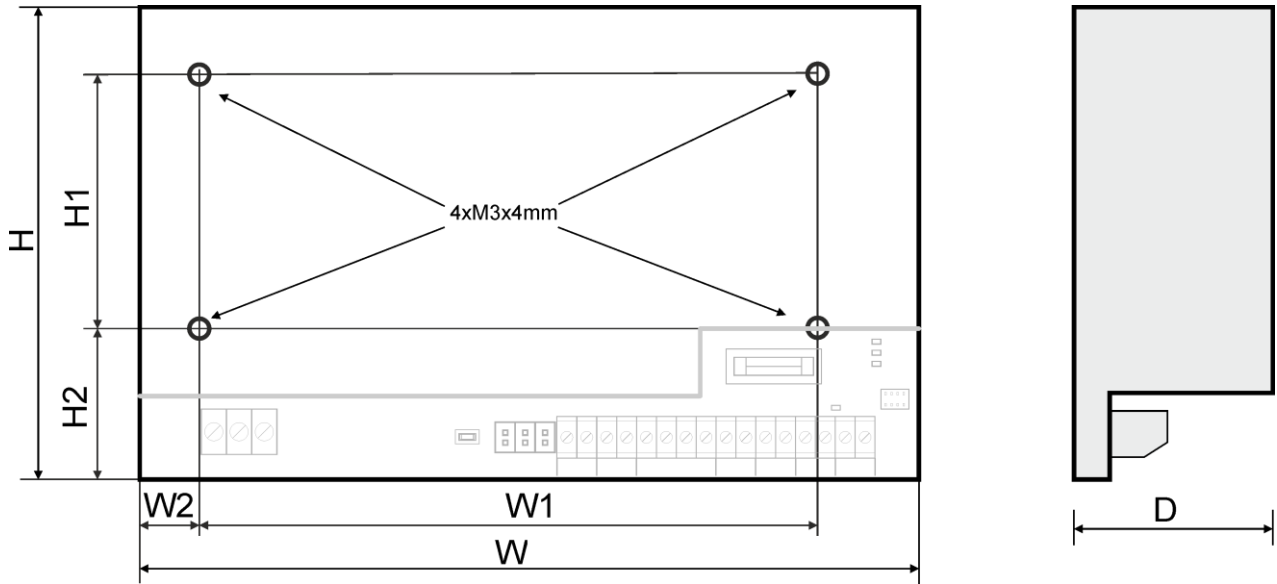

Fig. 3. Dimensions of power supply unit.
**Table 2. Dimensions of power supply units (Fig. 3).**